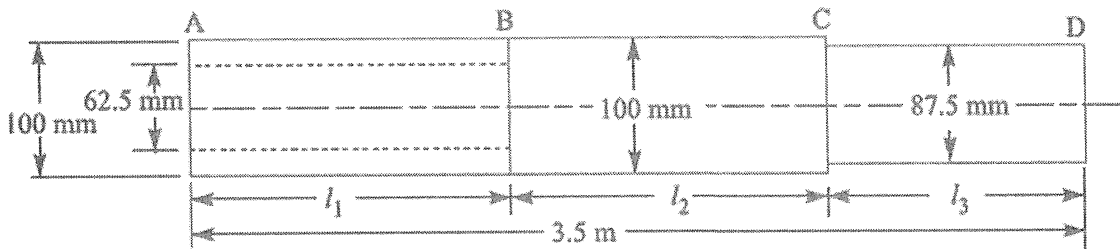

Figure Q1
- b) A steel shaft ABCD which is given in *Figure Q1* having a total length of 3.5 m consists of three sections as follows;